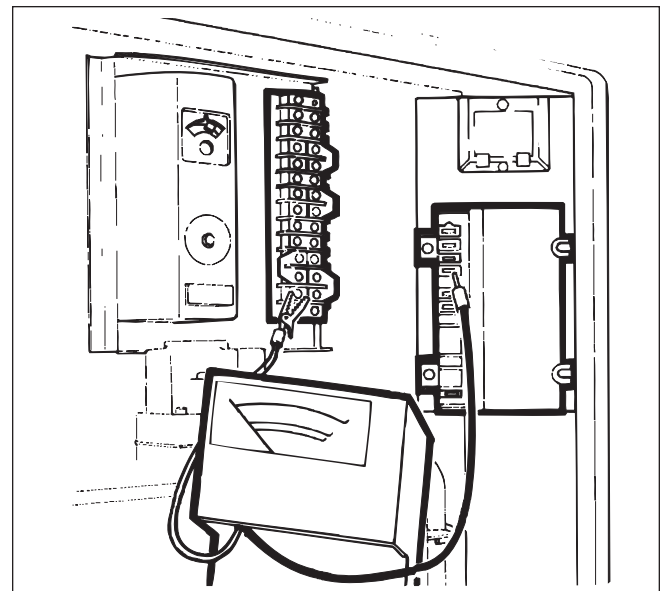

Figure 42. Flame sensing current.
- 2. If everything appears all right, measure flame sensing current by connecting a direct current (DC) microamp meter between terminal No. 12 and the GND (BURNER) terminal on the ignition control (see Figure 42).